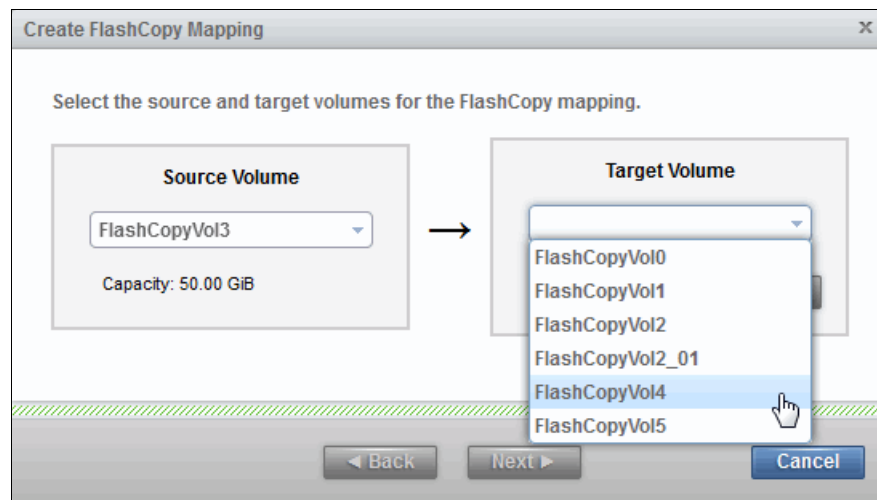

Figure 10-25 Select the target volume
2. You must choose the target volume for the source volume that you selected. Select the target volume from the drop-down menu in the right pane of the window and click **Add**, as shown in Figure 10-25.